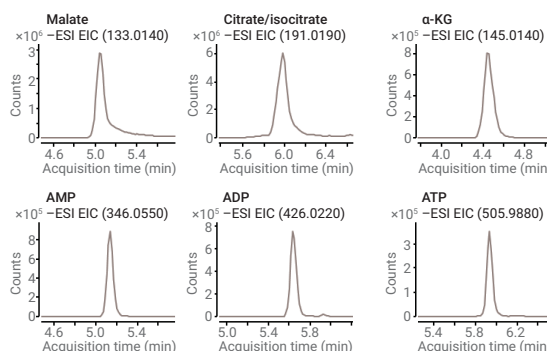

Figure 1. Representative chromatograms of metabolite standards.
3. Figure 1 shows representative chromatograms of metabolite standards (1 μL injection of a 5 ng/ μL sample) acquired using the above method.